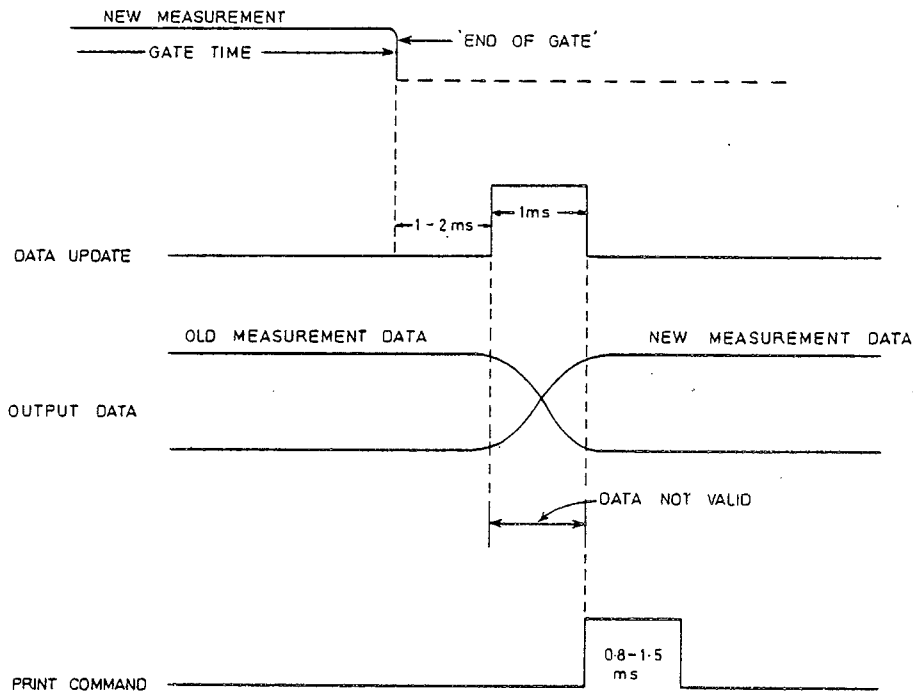

Fig. A1
5. Fig. A1. shows the sequence of events which occurs at the end of the gate time. Note that when using counters 9910, 9911, 9912 and 9919, and when using counter 9908 on 'A' channel with AC coupling, all timings are doubled, except the print command pulse width.